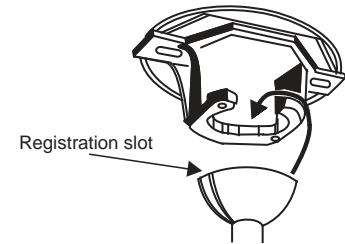

Fig. 9
Step 9. Lift the motor assembly into position and place the hanger ball into the ceiling mounting bracket. (Fig. 9)
Rotate the entire assembly until the "Check Tab" has dropped into the "Registration Slot" and seats firmly. (Fig. 9)